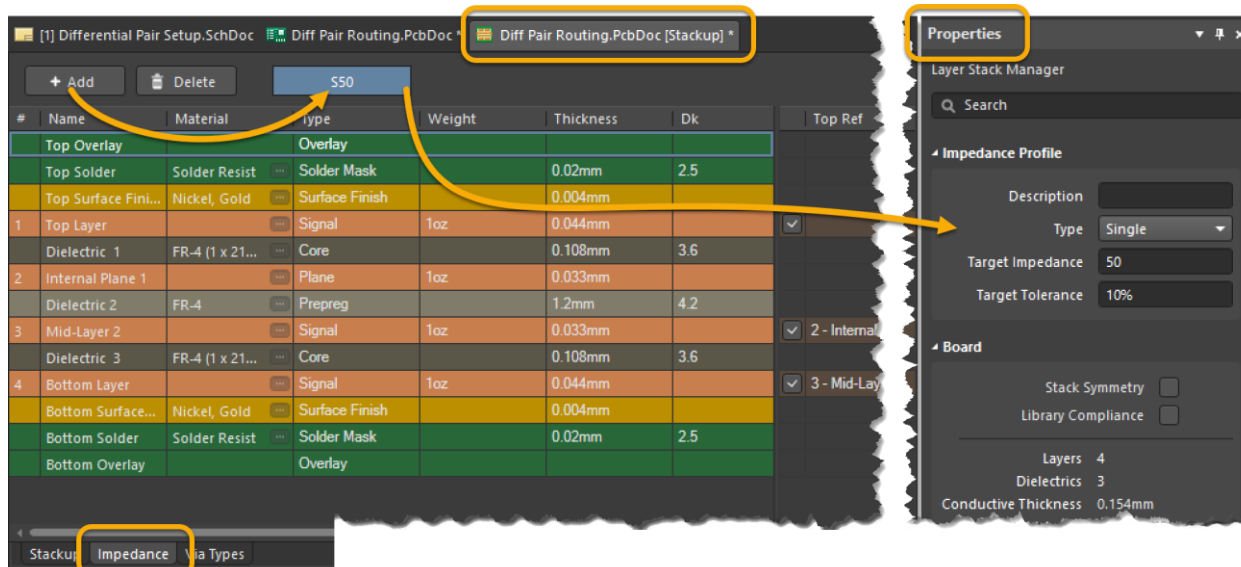

Figure 14. New Impedance profile with default 50 Ohm
21. Open the *Layer Stack Manager* (LSM) **Design » Layer Stack Manager...** and select the *Impedance* tab at the bottom left, Figure 14.
22. Click the **Add...** button at the upper left to create a new Impedance profile, Figure 14.